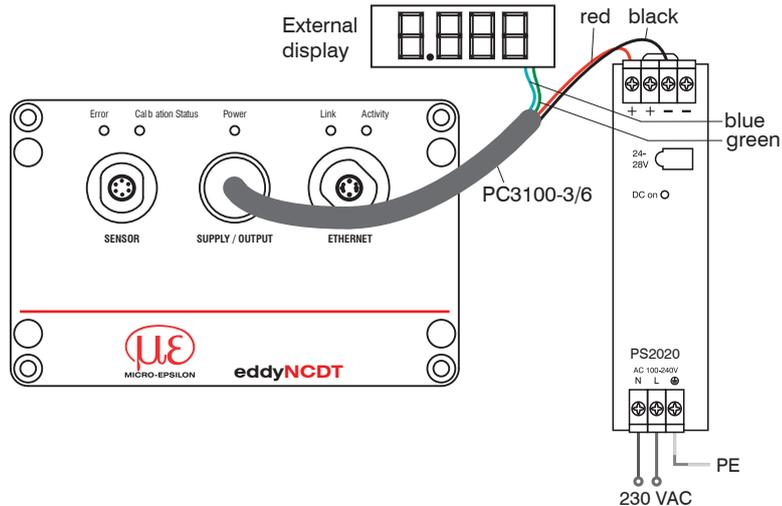

Fig. 22 Supply of a controller DT 3100 using a PS2020
- to the 6-pin female connector (Supply/Output, see Fig. 22) on the controller.